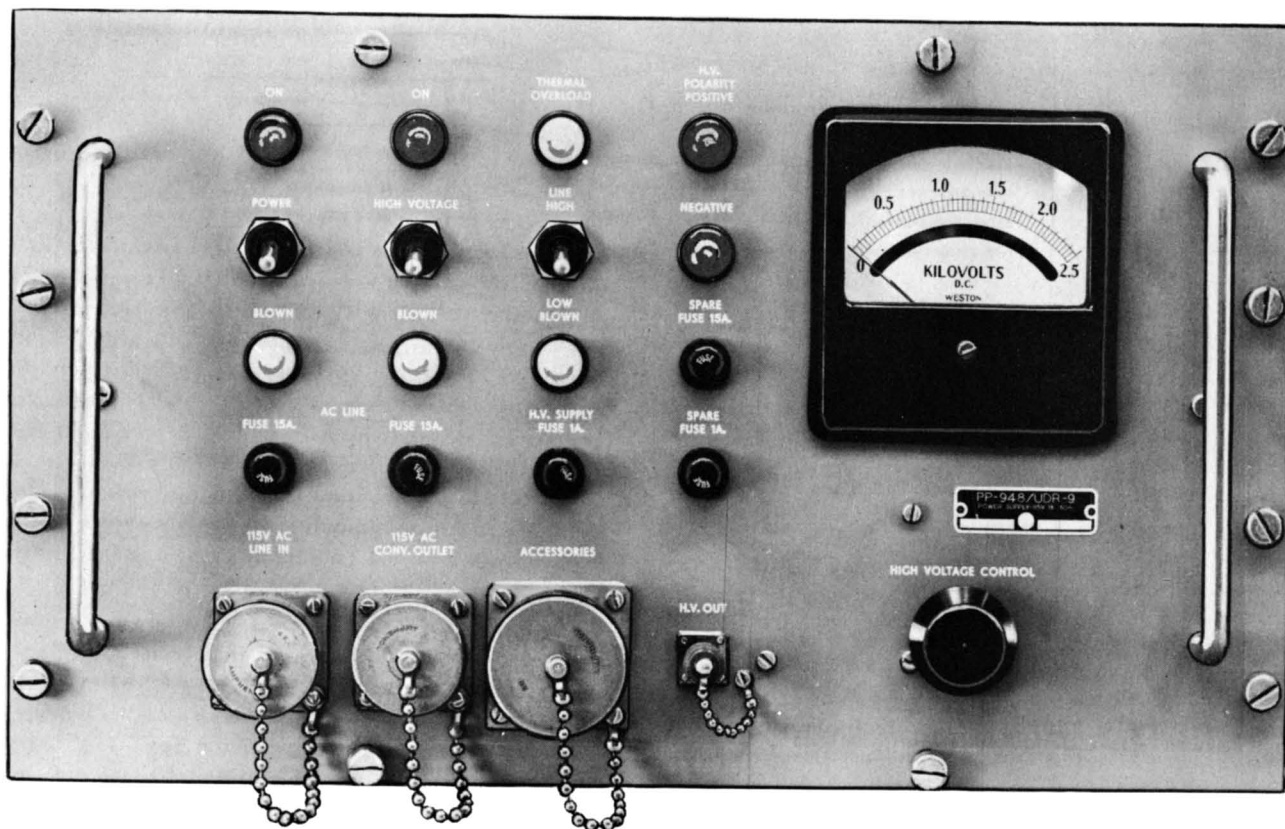
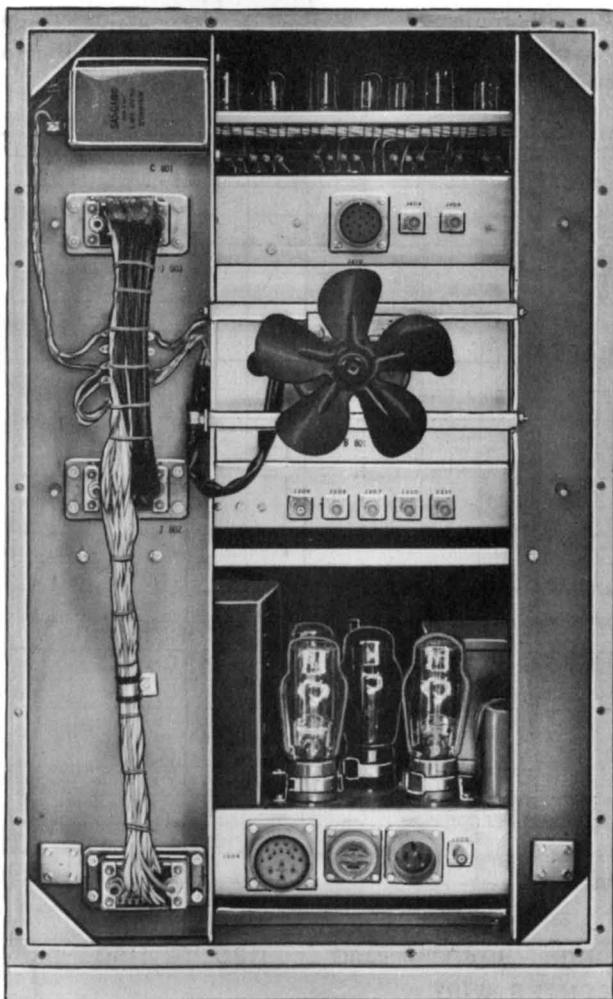

Figure 4-1. Power Supply PP-948/UDR-9, Front Panel Controls
Figure 4-6. Radiac Computer-Indicator CP-79/UD, Rear View with Panel Removed
a. GENERAL.—Front panel photographs of the various units of Radiac Set AN/UDR-9 are shown in Figures 4-1, 4-2, 4-3, 4-4, and 4-5. A rear view of each unit showing the back panel connectors is provided in Figure 4-6 and 4-7.
(1) General.—The primary power requirement for the CP-79/UD equipment alone is 105-120 volts, 60 cps, 900 watts single phase, while the power requirement for the entire AN/UDR-9 equipment is 1818 watts single phase. The primary power input connection is made at the 115V AC LINE IN receptacle on the front panel. The chassis of the power supply must be grounded, otherwise, with the type of